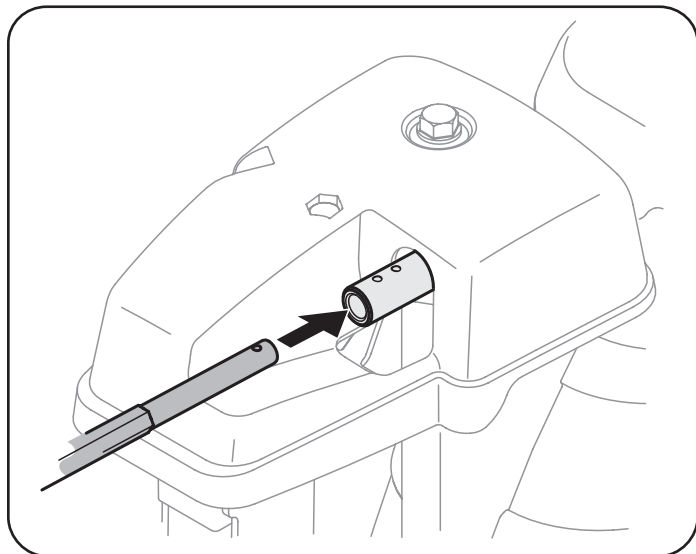

Figure 20
2. Insert chute control rod into chute control head. Push rod as far into chute control head as possible, keeping holes in rod pointing upward. See Figure 20.